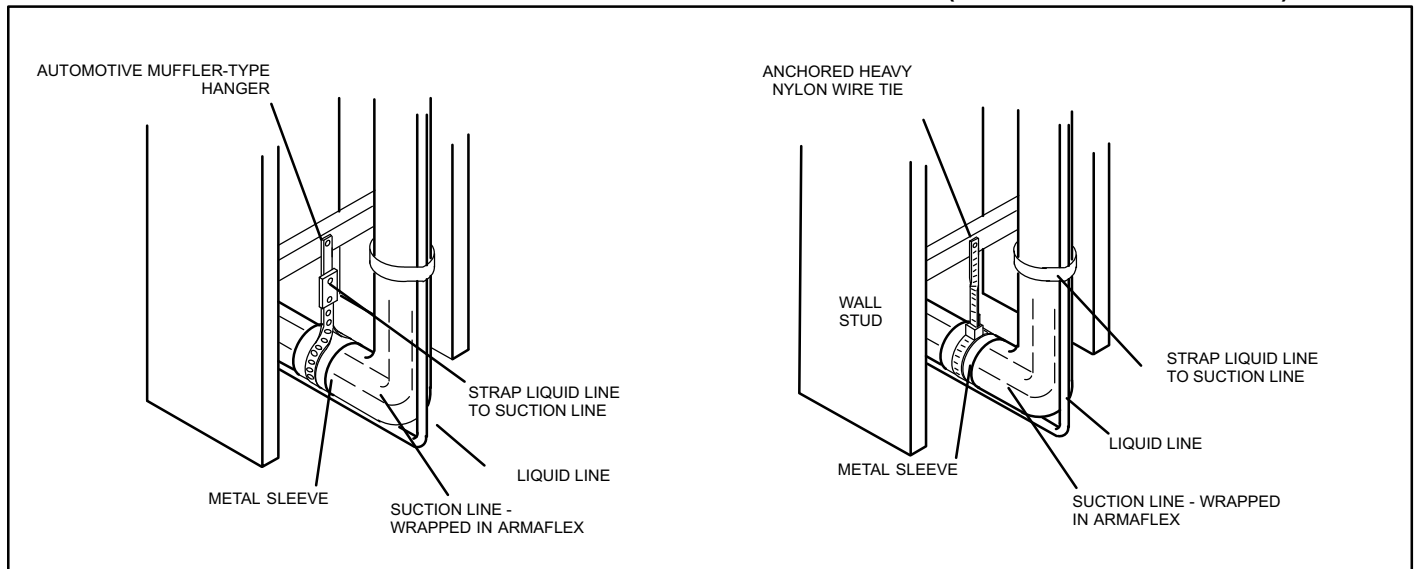

Figure 16. Refrigerant Line Set: Transition from Vertical to Horizontal
- Installation of **transition from vertical to horizontal** is illustrated in figure 16.